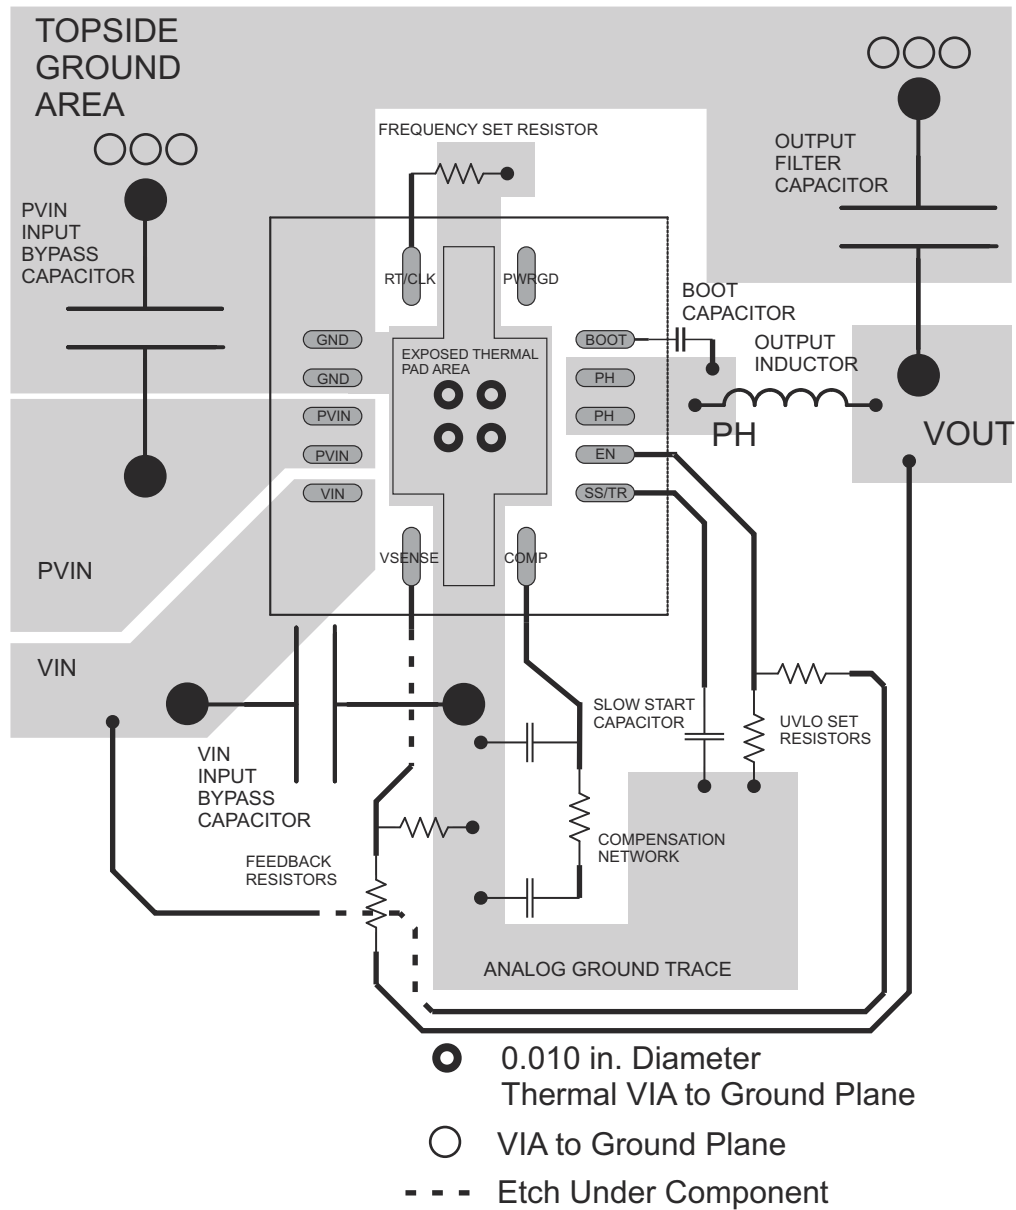

Figure 10-1. PCB Layout
The TPS54622-EP is designed to operate from an input voltage supply range from 4.5 V to 17 V. This supply voltage must be well regulated. Power supplies must be well bypassed for proper electrical performance. This includes a minimum of one 4.7- μ F (after derating) ceramic capacitor, type X5R or better from PVIN to GND, and from VIN to GND. Additional local ceramic bypass capacitance may be required in systems with small input ripple specifications, in addition to bulk capacitance if the TPS54622-EP device is located more than a few inches away from its input power supply. In systems with an auxiliary power rail available, the power stage input, PVIN, and the analog power input, VIN, may operate from separate input supplies. See Figure 10-1 for recommended bypass capacitor placement.
- Layout is a critical portion of good power supply design. See Figure 10-1 for a PCB layout example.